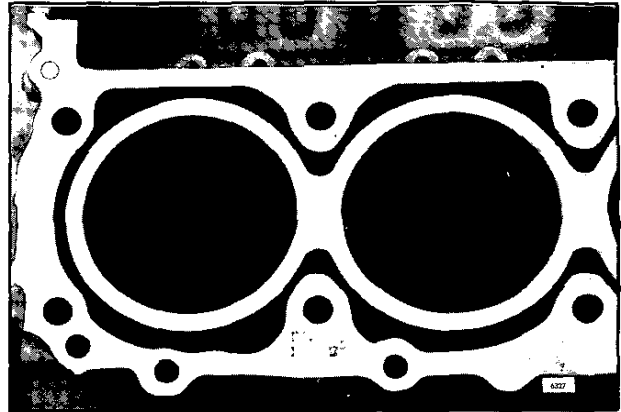

Fig. 6 - Reworked Cylinder Bores
9. When the selected dimension is reached, it will be necessary to regrade the bore by "X"ing out the original grade on the block and stamping the new grade alongside the cylinder that has been reworked (Fig. 6). The left cylinder is a grade B bore - .127 mm (0.005") oversize. The right cylinder has been reworked and regraded to a C bore. Refer also to "Grading The Cylinder Bores" in Section 1.1. The figure stamps used should not be greater than 6.350 mm (0.25").
6. Stamp the block with the oversize dimension e.g., (.127 mm or .005") adjacent to the cylinder bore that was reworked (Fig. 6).